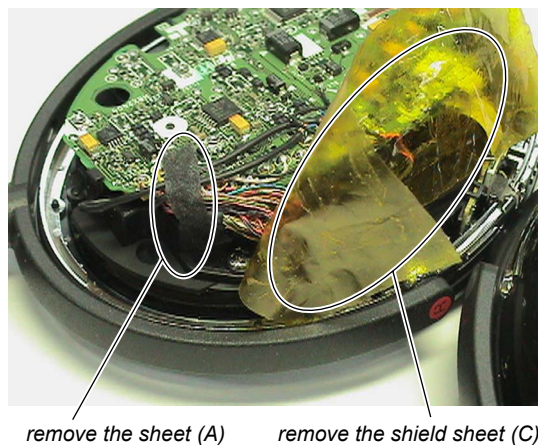

Fig. 1-1
2. Remove the shield sheet (C) and sheet (A). (Refer to Fig. 1-1)